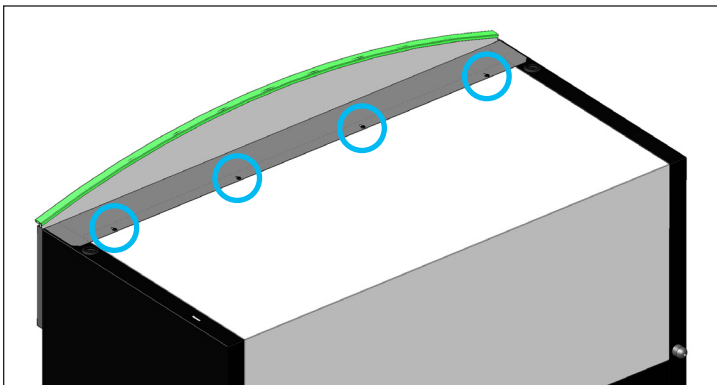

Fig. 4. Support bracket screw locations.
4. Loosen the hardware securing the sign panel assembly support bracket to the cabinet's top. See fig. 4.